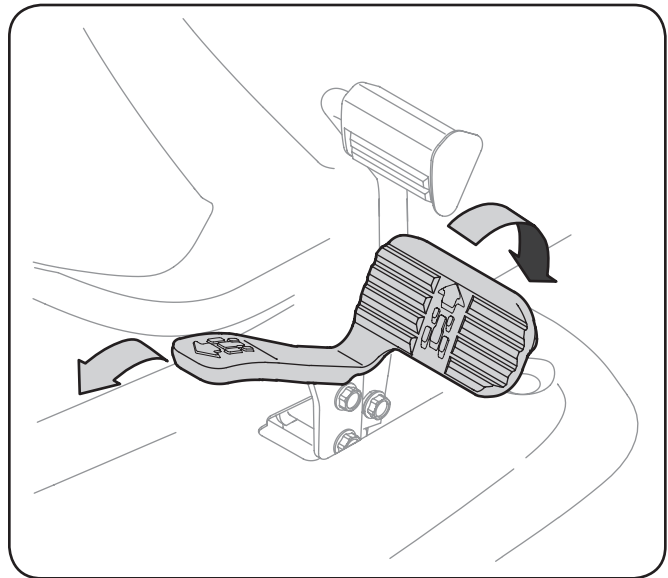

Figure 5-2
2. To travel FORWARD, slowly press the upper portion of the drive pedal forward until the desired speed is achieved. See Fig. 5-2.
To travel in REVERSE, check that the area behind is clear then slowly depress the lower portion of the drive pedal with the ball of your foot (NOT your heel) until the desired speed is achieved. See Fig. 5-2.